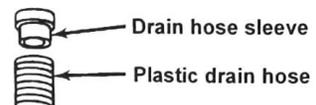

Figure 5
4. Install drain hose sleeve in plastic drain hose. See Figure 5.